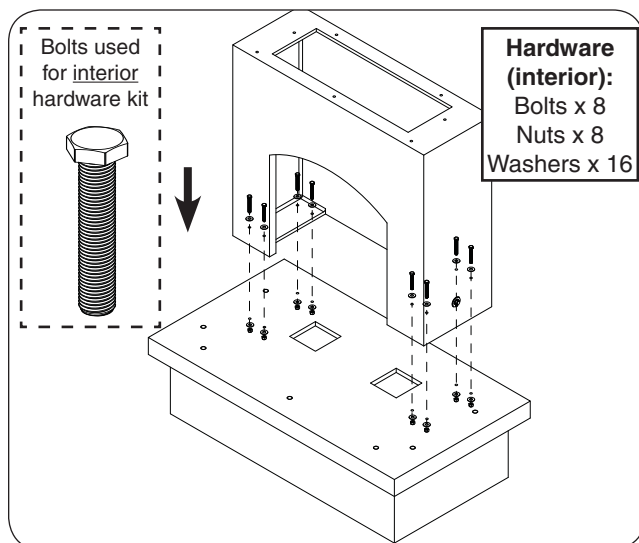

Fig. 15-3 Assemble body
3. Place the body piece on top of the shelf. Carefully align the pilot holes, and insert the hardware (interior hardware kits) in the order shown in Fig. 15-3. Hand tighten, then use two  $\frac{3}{4}$ " open end wrenches (or equivalent) to fasten.